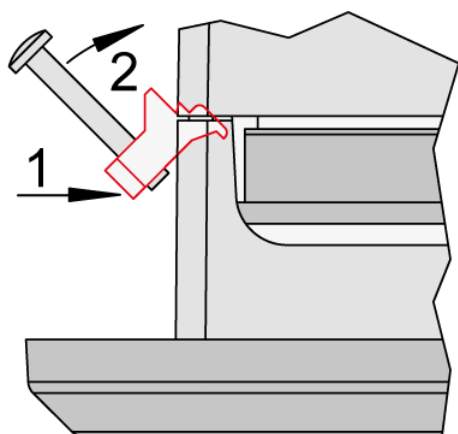

Fig. 21: Attach clamp inserts
5. ➔ Re-install the clamp inserts by tilting the insert to a 45° angle. (Fig. 21/1) Insert the nose of the insert into the slot on the side of the housing. (Fig. 21/2) Raise the clamp insert so that it is parallel to the control panel.